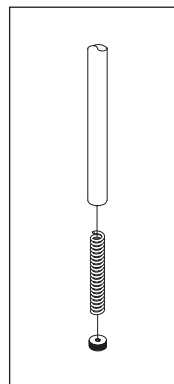

Fig. 4
2. Remove the bumper and any spacers from the outer tube. Note the orientation of all parts (fig. 4).
1. Unscrew the preload adjuster plug using a 6mm hex wrench (fig. 4).